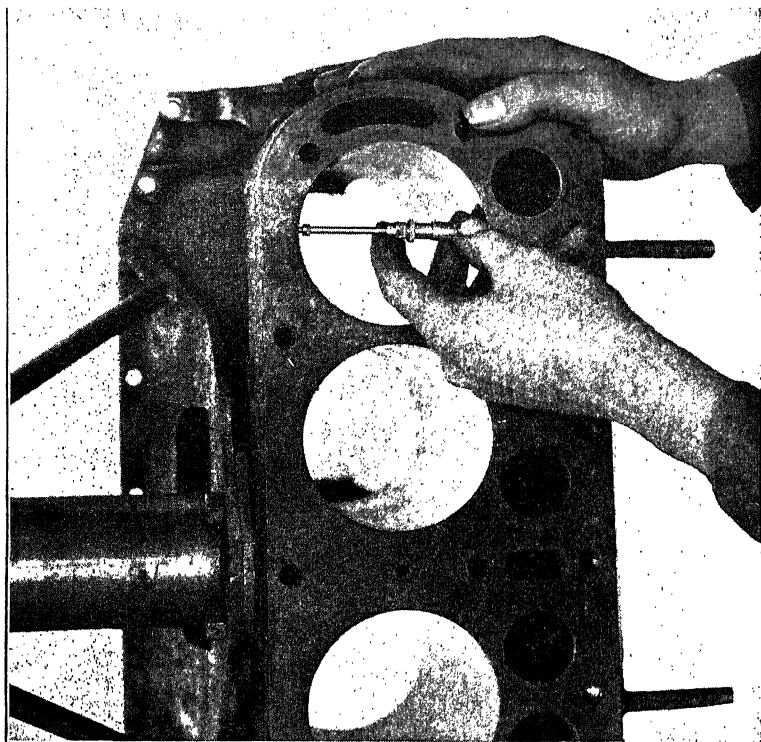

Fig. 19. . Using the Inside Micrometer to Determine Amount of Out-of-Roundness, Taper, Wear, or Oversize
*Testing a Cylinder with Inside Micrometer.* Fig. 19 shows how the inside micrometer is used to determine the cylinder condition. The cylinder should be "read" at the top, center and bot-